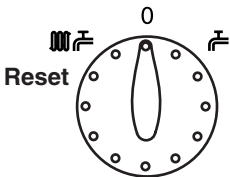

Fig. 3
2. Turn the On/Off/Reset selector switch either anti-clockwise from the off position (Fig. 3) to both central heating and domestic hot water or clockwise to domestic hot water only.